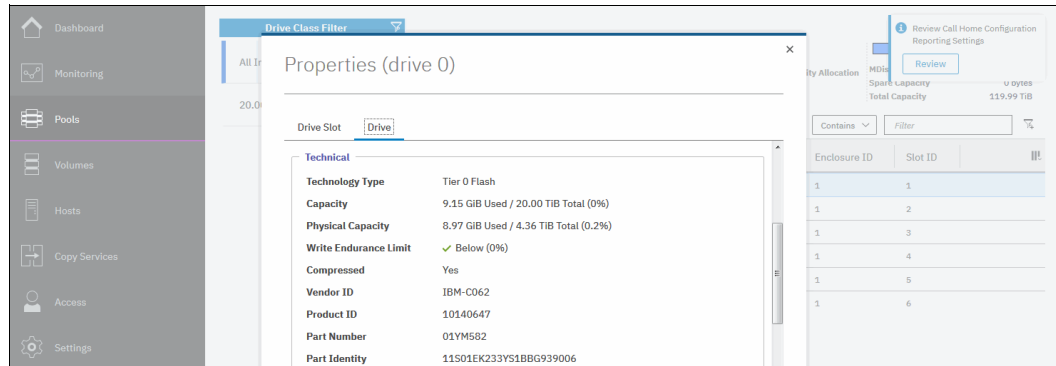

Figure 2-1 FCM capacity monitoring with GUI
- ▶ Storwize V7000 Gen3 system GUI (as shown in Figure 2-1) and CLI (as shown in Example 2-2) allows you to monitor the effective and physical capacity for each FlashCore Module.